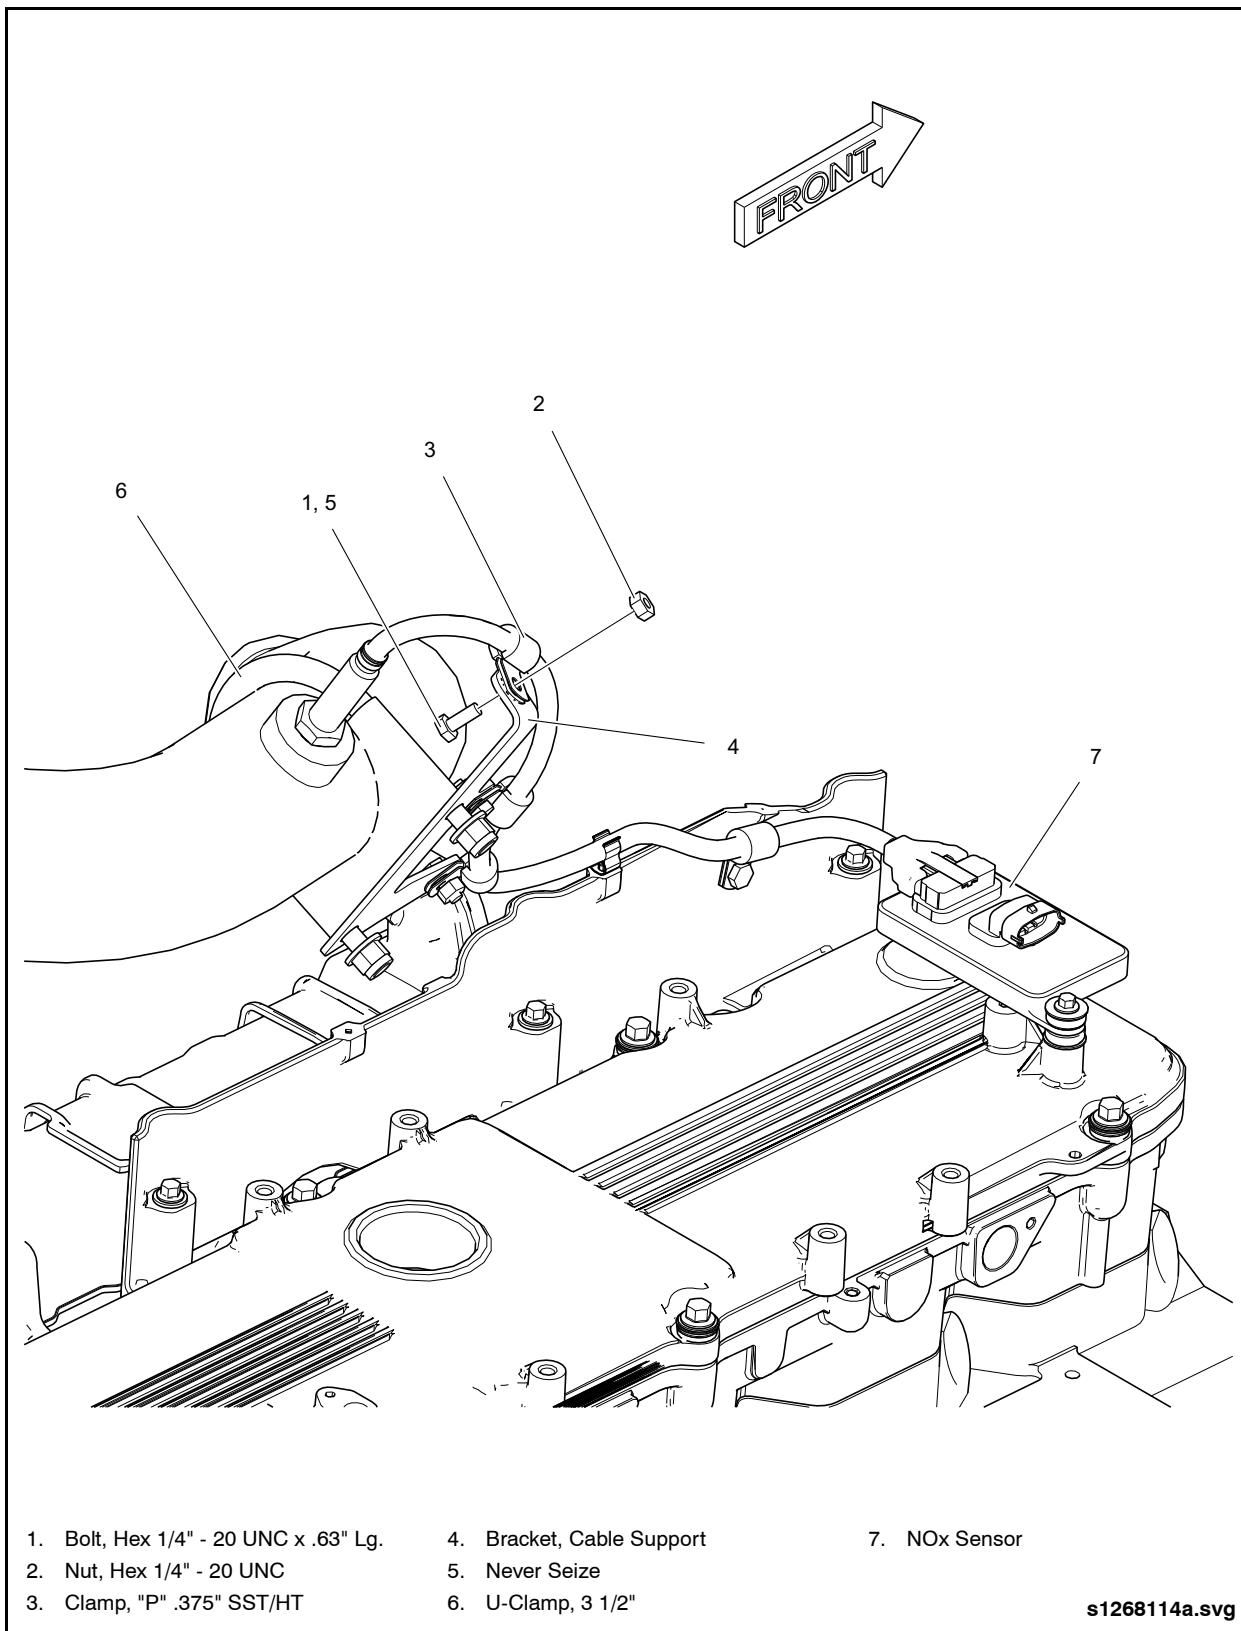

Fig. 4-24: NOx Sensor Removal & Installation
2. Disconnect the vehicle harness from the electronic control module. See “Fig. 4-24: NOx Sensor Removal & Installation” on page 42.